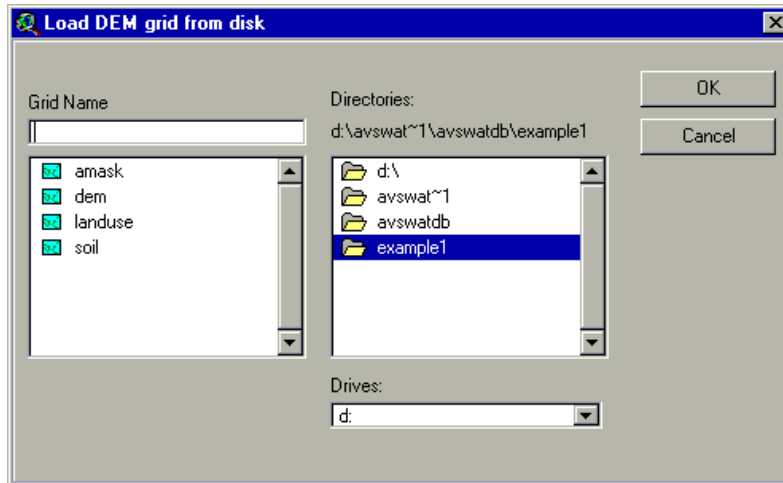

Figure 15.10
3. A grid dataset file browser will appear with the User Data directory active (Figure 15.10).